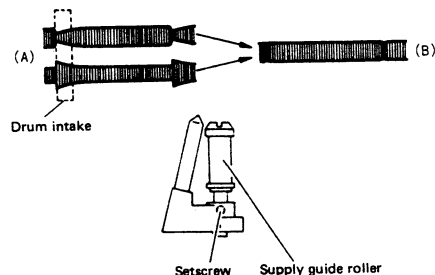

Fig. 2-19 Drum intake waveform adjustment
10. Turn the tracking control to maximum FM waveform output. If the portion at the drum intake appears as shown by (A) in Fig. 2-19, adjust the supply guide roller to obtain a flat waveform as shown by (B).